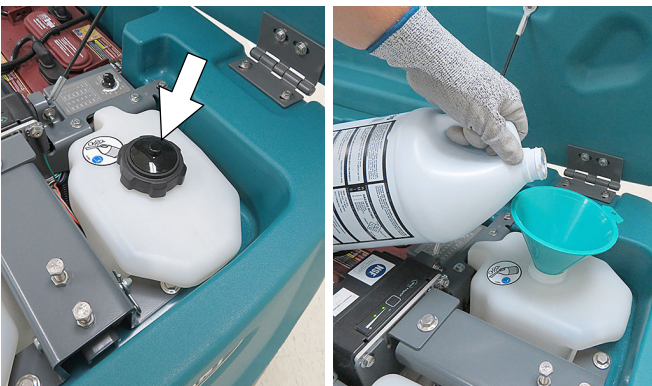

FIG. 113
- Severe environment option - Refill the severe environment tank with a recommended cleaning detergent at full concentration (Figure 113). Replace cap.